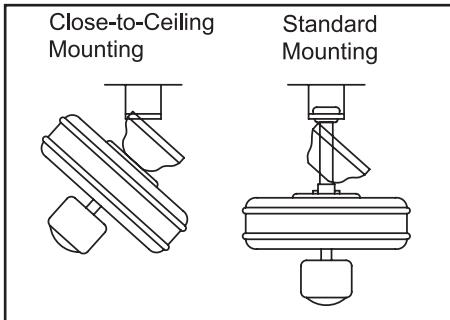

Figure 11
2. Install the ceiling mounting plate on the outlet box by sliding the mounting plate over the two screws provided with the outlet box (Figure 11). When using close-to-ceiling mounting, it is important that the mounting bracket be level. If necessary, use leveling washers (not included) between the mounting plate and the outlet box. Note that the flat side of the mounting bracket is toward the outlet box (Figure 11).
5. Carefully lift the fan assembly up to the ceiling mounting plate. If using close-to-ceiling mounting, hang the fan on the hook provided by utilizing one of the holes at the outer rim of the ceiling canopy (Figure 11). If us-
THE HOOK AS SHOWN IN FIGURE 11 IS ONLY TO BALANCE FAN WHILE ATTACHING WIRING. FAILURE TO HANG AS SHOWN IN FIGURE 11 MAY RESULT IN HOOK BREAKING, CAUSING THE FAN TO FALL. HOOK MUST PASS FROM INSIDE TO OUTSIDE OF CANOPY.